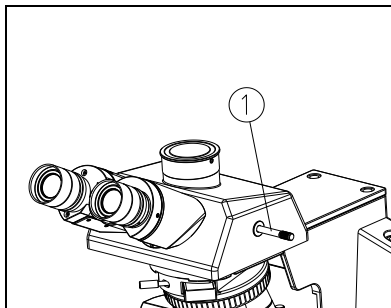

Fig.13
For trinocular head, the light path selecting pole ① control the light-energy ratio of binocular and trinocular. When the light path selecting pole is pushed to the innermost, all the light will enter the binocular head. When the light path selecting pole is pulled to the middle position, binocular and trinocular can be observed simultaneously. When it is pulled to the outmost, all the light will enter the trinocular head, which can only used for trinocular observation (TV&Photography). (See Fig. 13)